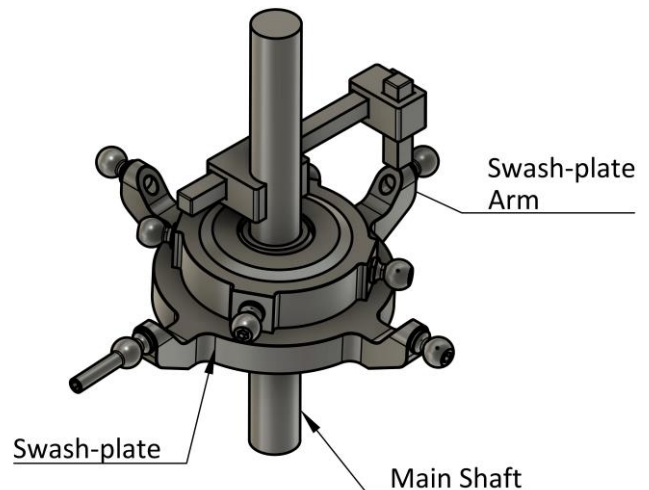

Figure 2
- Clip *easySWASH* onto your model's main rotor shaft above the swash-plate leaving a gap (see Figure 2 above). It should not be necessary to remove the rotor head unless the helicopter is very small and there is not enough space between the swash-plate and the rotor head.